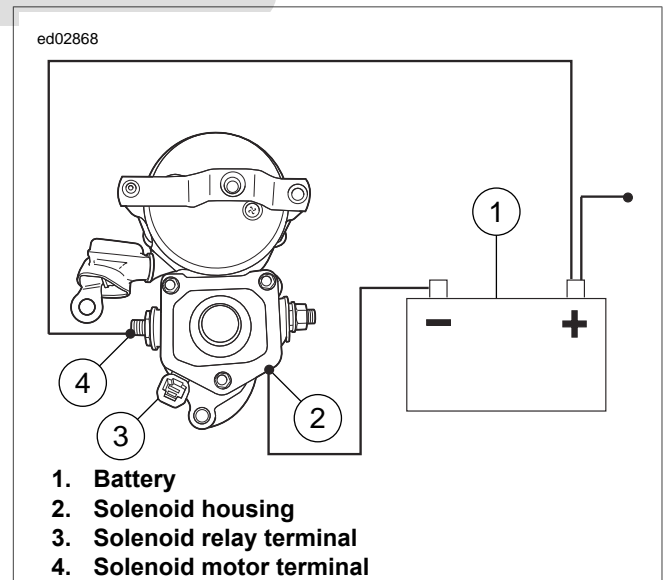

Figure 3-9. Return Test
1. See Figure 3-9. With test leads still connected in the manner specified at the end of 3.5 TESTING STARTER ON BENCH, Solenoid Hold-In Test, disconnect solenoid relay terminal positive battery post test lead at either end.